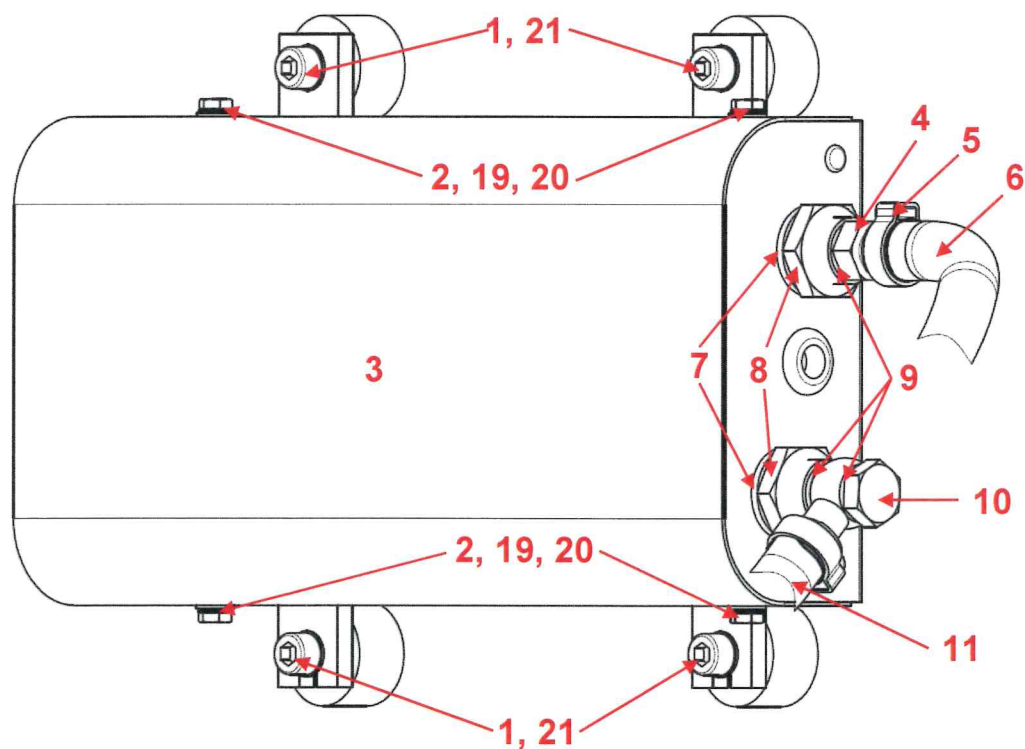
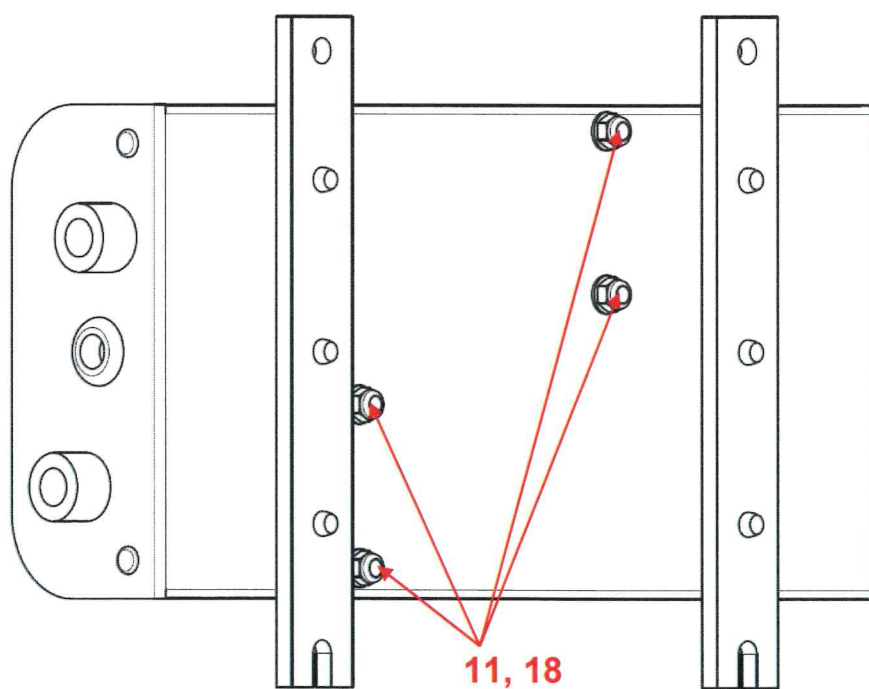
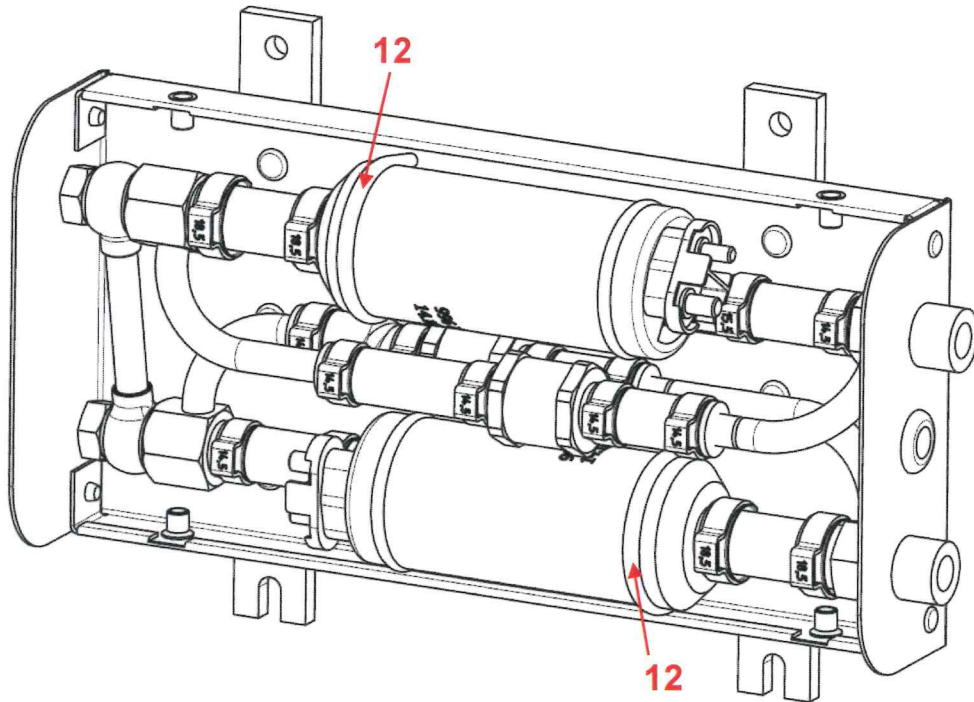

Fig. 1
Fig. 2
Fig. 3
4. Locate the fuel pump unit (in the upper part of the firewall), remove the bolts (1; Fig. 1) and washers (21) to release the housing from the firewall.
5. Remove the Pyrosil tape from the end of the fuel hose (6), remove the pressing clamp (5) and remove the fuel outlet hose (6). Remove the fuel inlet hose (11) by removing the banjo bolt (10) with sealing rings (9). Remove the fuel pump unit from the aircraft.
7. Remove the housing cover (3) by removing the bolts (2) and washers (19, 20).
8. Remove the hose adaptor (4) with ring seal (8).
9. Remove the nuts (8) and washers (7).
10. Remove the nuts (11; Fig. 2) with washers (18) on the back side of the housing, remove the fuel pump holders (12; Fig. 3).
7. Insert the fuel pump assembly into the housing, attach the fuel pumps by holders (12; Fig. 3) and the nuts (11; Fig. 2) with washers (18).
8. Install the washers (7) and nuts (8).
9. Install the hose adaptor (4) with a new sealing ring (9).
10. Install the fuel pump unit on the firewall and secure it with bolts (1; Fig. 1) and washers (21). Do not install the housing cover (3)!
11. Connect the fuel hose (6) to the hose adaptor (4) and secure it by the pressing clamp (5).
12. Connect the fuel hose (11) to the fuel pump input new sealing rings (9) and banjo bolt (10).